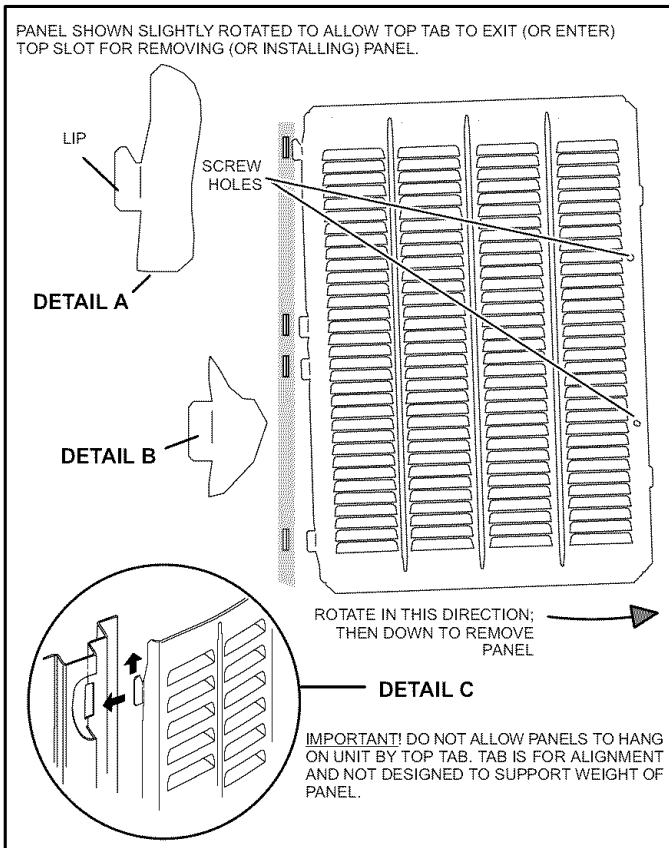

Figure 11. Removing/Installing Louvered Panels (Details A, B and C)
1. Remove two screws, allowing the panel to swing open slightly as illustrated in figure 11.
2. Rotate bottom corner of panel away from hinge corner post until lower three tabs clear the slots as illustrated in figure 11, detail B.
3. Move panel down until lip of upper tab clears the top slot in corner post as illustrated in figure 11, detail A.
2. With a continuous motion slightly rotate and guide the lip of top tab inward as illustrated in figure 11, details A and C, then upward into the top slot of the hinge corner post.
With unit positioned at installation site, remove two side louvered panels to expose the unit base pan. Install the brackets as illustrated in figures 11 and 12 using conventional practices; replace the panels after installation is complete.